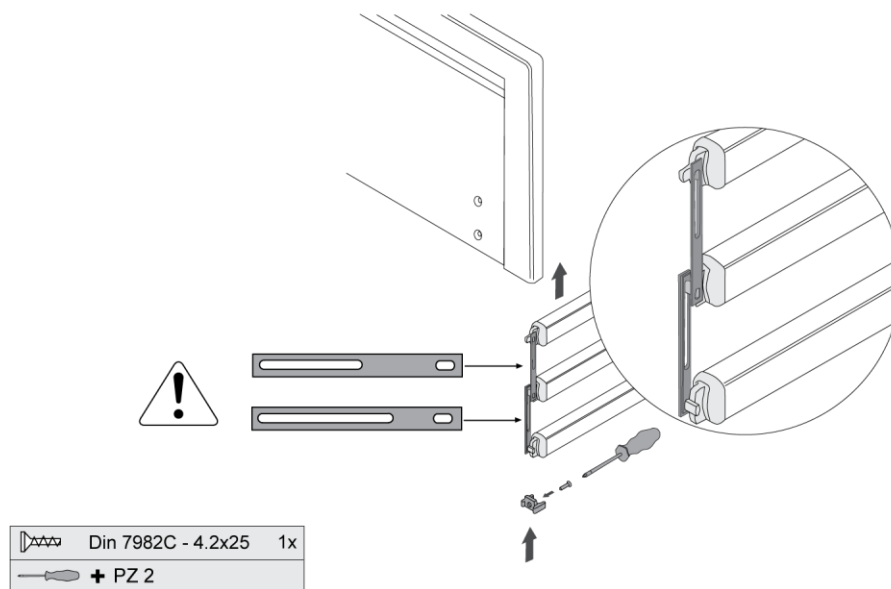

Figure 6.7: Assembly of the Trix sideguards
Step 2: Fix the Trix sideguards to the head and foot panel Valentino / Felina / Puro like shown in fig 6.7